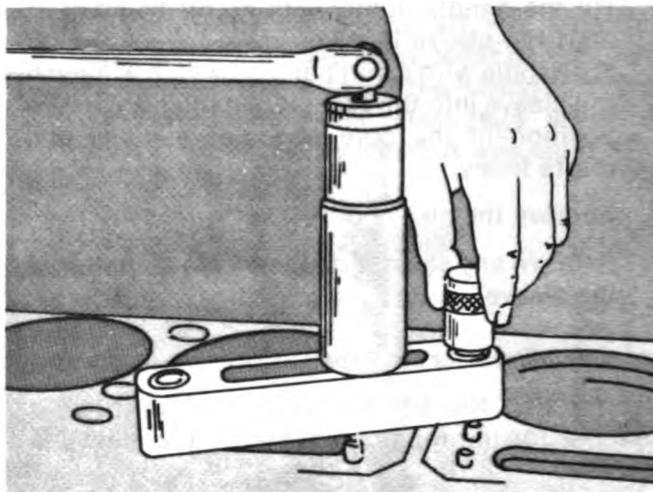

Fig. 1-30. Install The Locating Pin.
- Put the locating pin into the 9/16 inch [14.30 mm] bushing in the plate and into the waterhole to be repaired, Fig. 1-30.